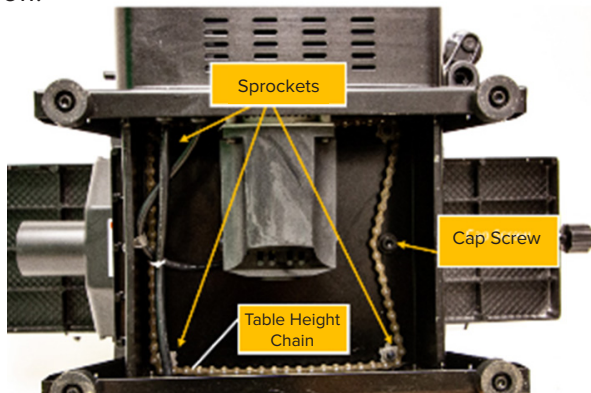

Figure 44: the planer's table elevation chain and sprockets.
4. Loosen the cap screw as depicted in Figure 44, then apply moderate pressure to push the idler sprocket against the chain. Maintain this pressure while tightening the cap screw.